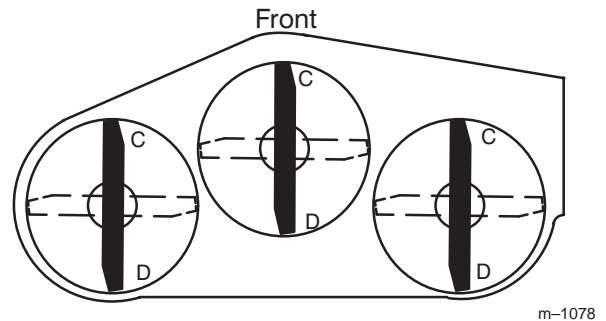
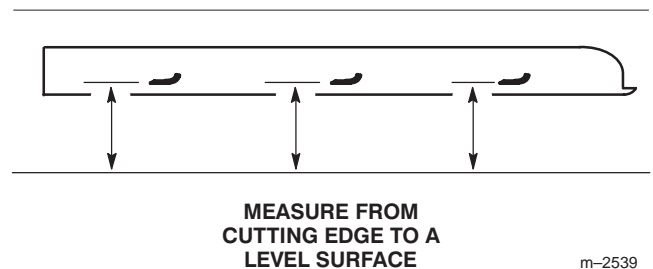

Figure 49
Figure 50
2. Position one blade front-to-rear (Fig. 49). Measure at “C” and “D” locations (Fig. 49) from a level surface to the cutting edge of the blade tips (Fig. 50).
4. Position the blades front-to-rear (Fig. 49). Measure at “C” and “D” locations (Fig. 49) from a level surface to the cutting edge of the blades (Fig. 50).